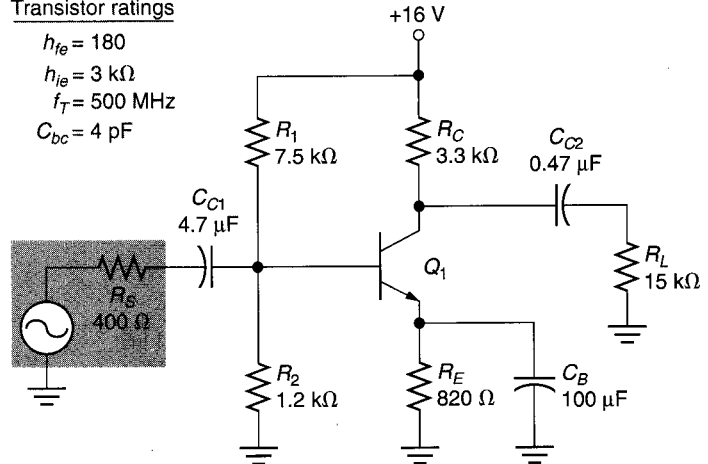

FIGURE 14.34
30. Calculate the overall values of  $f_{C1}$  and  $f_{C2}$  for the amplifier in Figure 14.34.